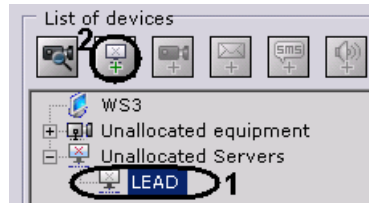

Fig. 6.2—3 Adding a Server to a domain from the **Unallocated Servers** group
1. Select the Server in the **Unallocated Servers** group (Fig. 6.2—3, 1).